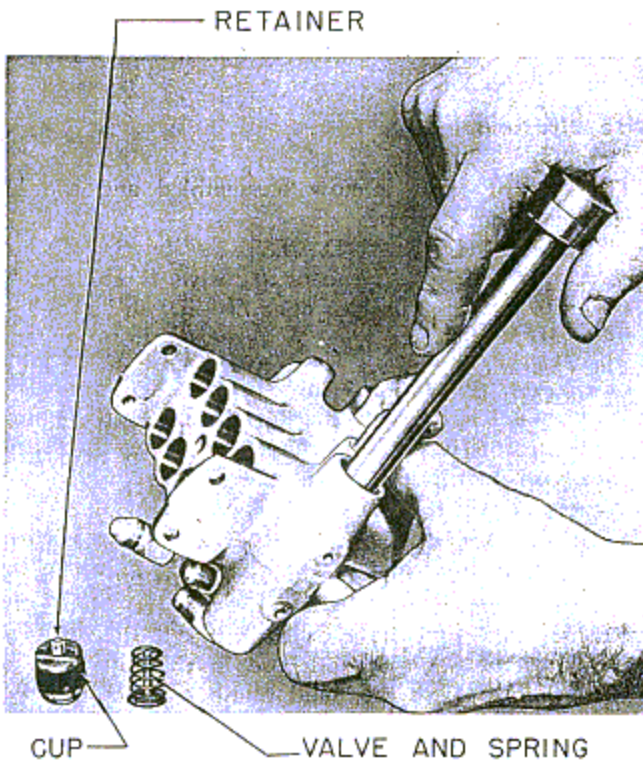
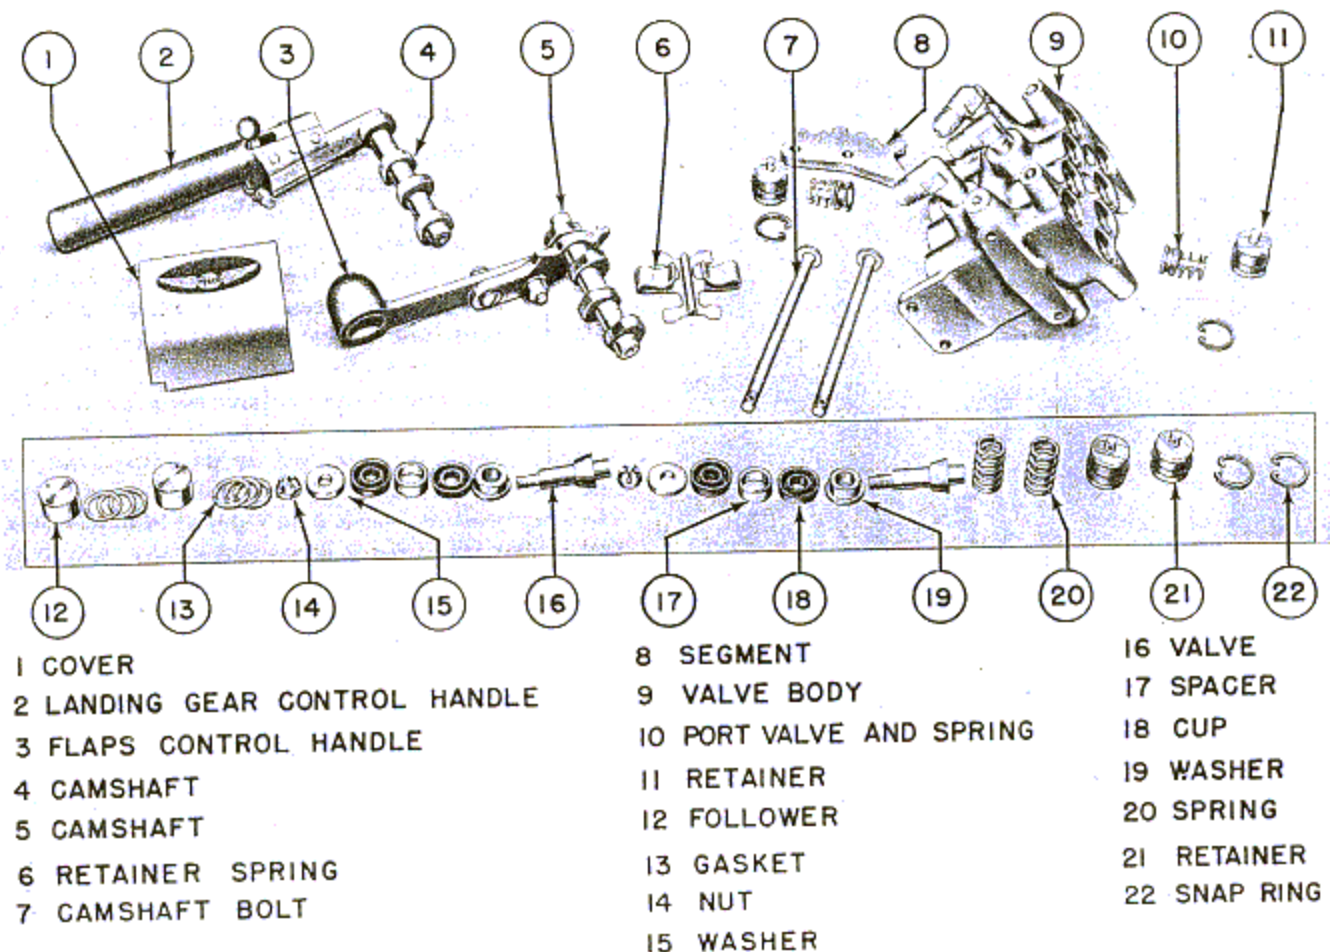

Figure 238—Removing Retainers and Valves—Inlet Port
Figure 239—Control Valve Disassembled
16. Remove the retainer, the spring, and the valve on each side of the inlet port. (See figure 238.) The control valve is now completely disassembled as illustrated in figure 239.